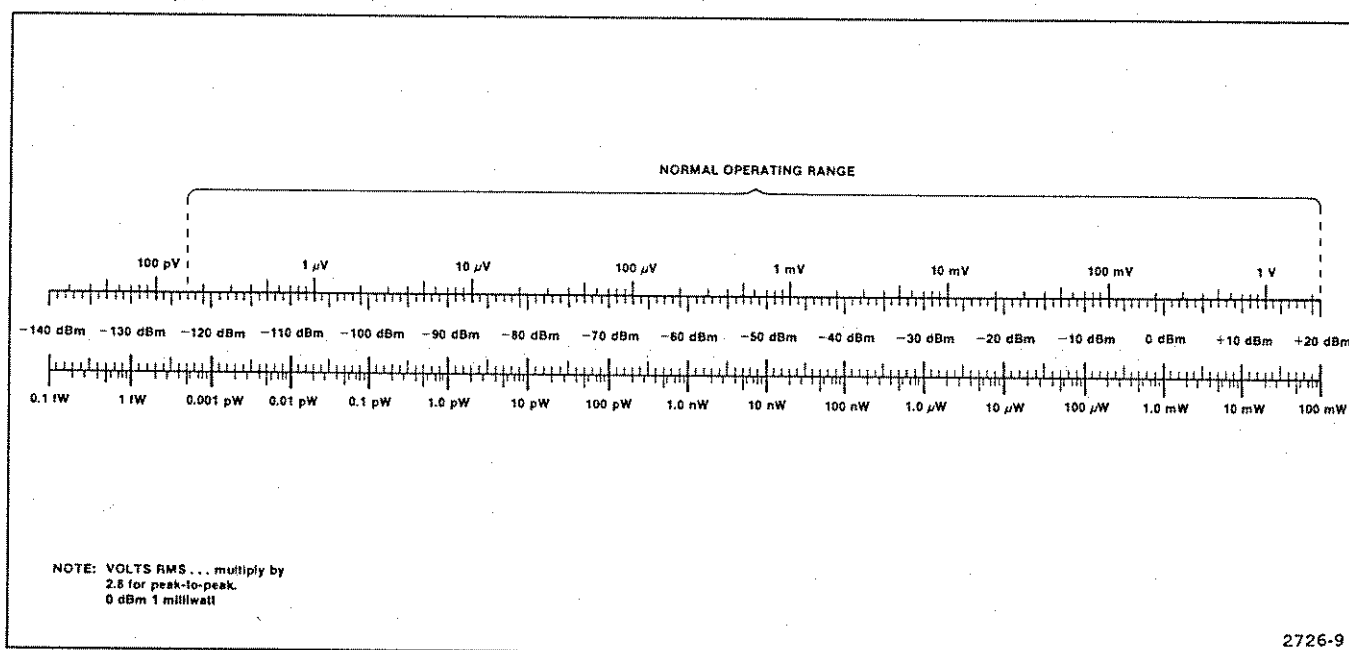

Fig. 3-9. Volts-dBm-watts conversion chart for 50 Ω impedance.
**Amplitude Conversion.** The 492 reads out signal levels in dBm. A conversion chart shown in Fig. 3-9 provides a way to determine input signal levels from a voltage or power source.